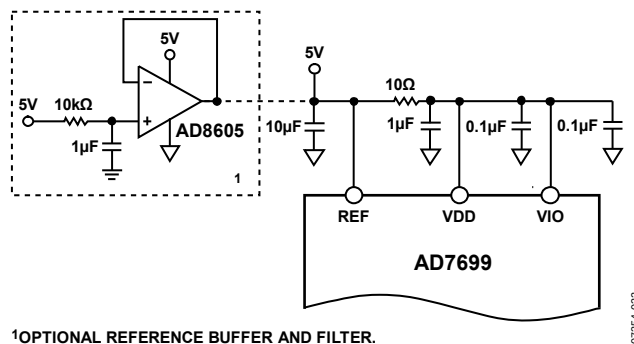

Figure 36. Example of an Application Circuit
In any of the five voltage reference schemes, an external reference can be connected directly on the REF pin because the output impedance of REF is $>5\text{ k}\Omega$. To reduce power consumption, the reference and buffer can be powered down independently or together for the lowest power consumption. When only using the external reference (and optional reference buffer as shown in Figure 36), an internal buffer is disabled. Refer to Table 10 for register details. For improved drift performance, an external reference such as the ADR430/ADR431/ADR433/ADR434/ADR435 or ADR440/ADR441/ADR443/ADR444/ADR445 is recommended.
For simplified applications, the AD7699, with its low operating current, can be supplied directly using the reference circuit, as shown in Figure 36. The reference line can be driven by
- A reference buffer, such as the AD8605, which can also filter the system power supply, as shown in Figure 36